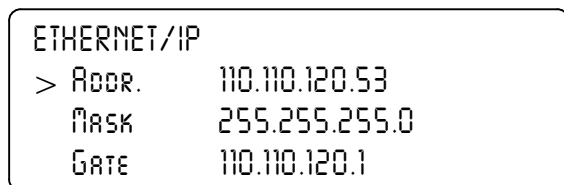

FIG. 68: ETHERNET/IP MENU/SETTING IP ADDRESS
- Step 5. Press the Enter button. The Ethernet/IP I/O Menu appears. (See Fig. 68)
- Step 6. Press the right or left arrow buttons until the cursor is in front of Addr. (See Fig. 68)